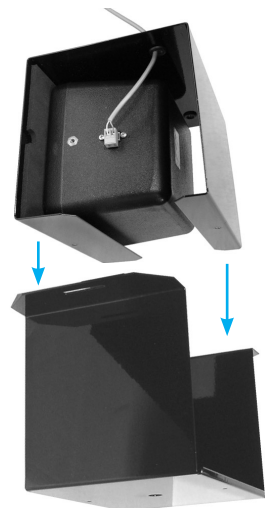

Figure 5
6. Assemble the top and bottom sections of the enclosure as shown in Figure 5 (SP10 shown). Secure the two sections together with the enclosed Phillips (cross-point) screws. See note in this step of previous section.